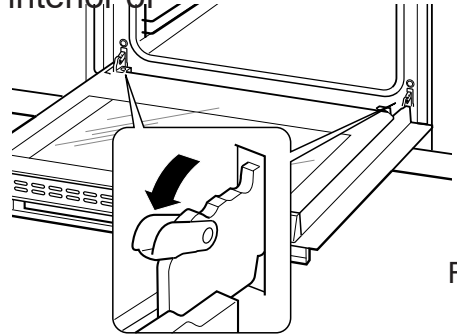

Fig. 1
1. To remove the door, open the door to the maximum angle, then pull the buckle at the door hinge backward. Fig.1